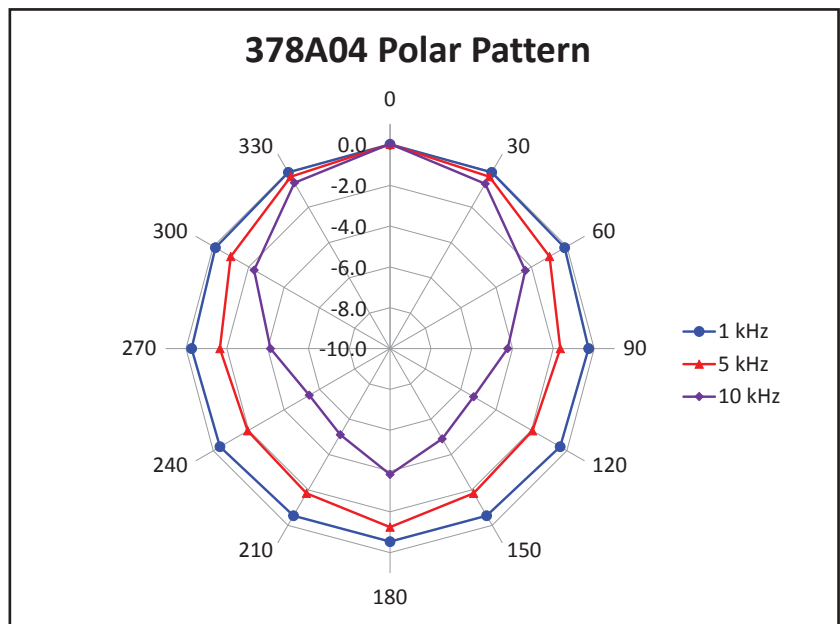

Figure 5: The polar pattern of the 378A04 measured in PCB Piezotronics' anechoic chamber shows a smooth narrowing of the directivity with increasing frequency.
**Figure 5** shows the polar pattern data from PCB Piezotronics' anechoic chamber. The microphone is nearly omnidirectional at low frequencies, with increasing directionality at higher frequencies because of the microphone geometry. The usual setup suggestions for non-reverberant measurement apply here—the microphone should be pointed directly at the source so that the high frequencies can be added with correct amplitude. Note the absence of lobing and the smooth transition in directionality with increasing